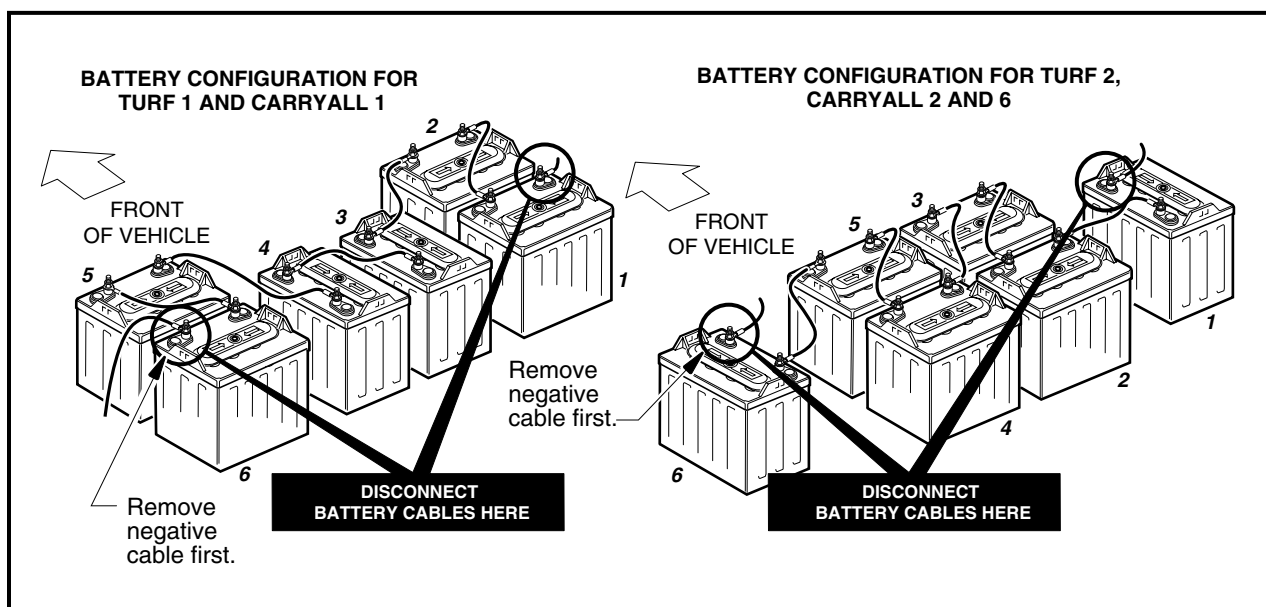

Figure 1-2 PowerDrive Battery Configuration
- To avoid unintentionally starting the vehicle, disconnect the batteries as shown (Figure 1-2, Page 1-3).